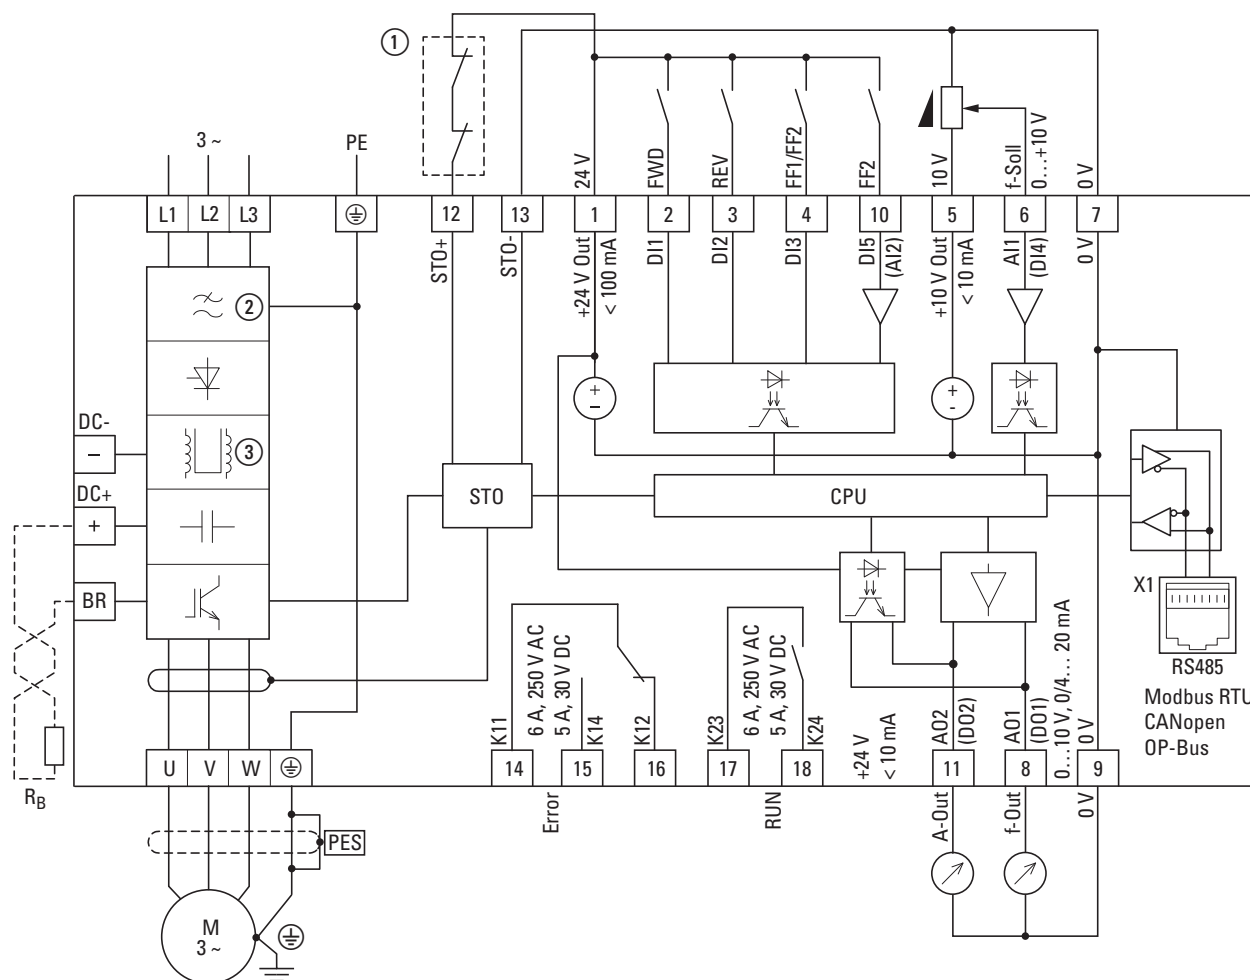

Figure 91: DA1-...-B55C block diagram
① Direct enable of the STO function or relay: Safe Torque Off (STO), SIL 2 (EN 61800-5-2) as in → figure 91, page 124
② The RFI filter is not contained in the DA1-35-...-B6XC device.